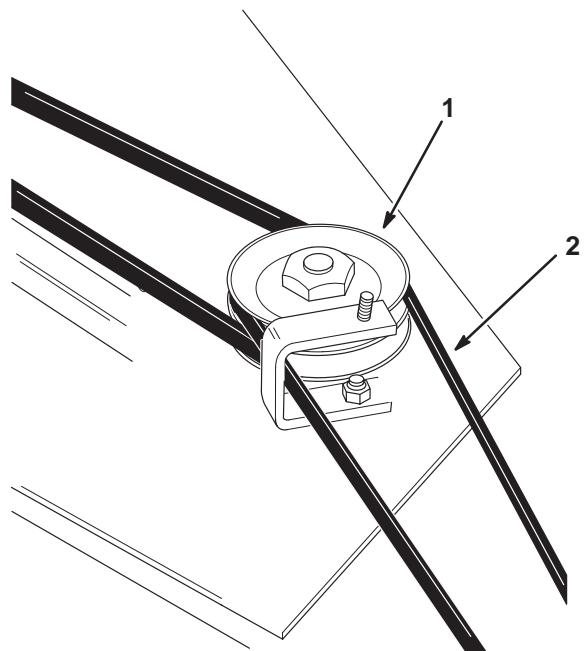

Figure 10
13. Install the drive belt around the right-hand mower pulley, idler pulleys and blower pulley as shown (Figs. 10 and 11).